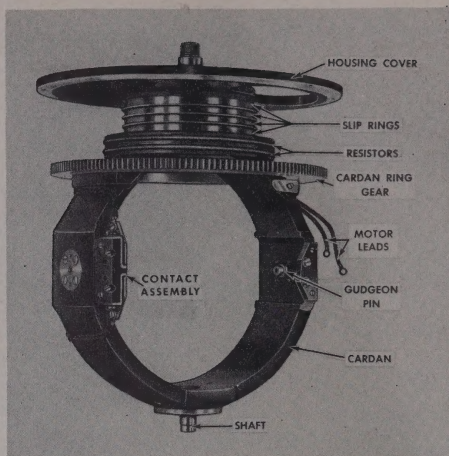
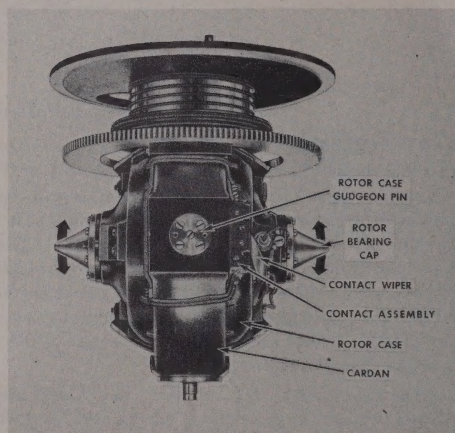

Fig. 42—Cardan Assembly
Fig. 43—Cardan Assembly with Rotor Case Mounted in Position
2. Fig. 42 shows the Cardan which supports the Rotor Case assembly described above. The Cardan is mounted vertically within the Stabilizer housing on ball bearings at both the upper and lower ends of the assembly, thus permitting the Cardan to rotate about an axis perpendicular to the floor of the airplane. As shown in Fig. 43, the gyro rotor case is mounted in the Cardan between horizontal gudgeon bearings. This arrangement permits the case and enclosed rotor to pivot about a horizontal axis which is at right angles to the gyro rotor axis.
3. Fastened rigidly to the upper part of the Cardan is an assembly consisting of two resistors, four copper slip rings, and a large ring gear. In addition, a bakelite block with four flat silver-faced copper segments is mounted on one side of the Cardan ring. This assembly, illustrated in Fig. 42, is called the contact assembly. The pick-up wiper mounted on the gyro case (illustrated in Fig. 44) is so placed that it will rest on the insulator between the two middle segments of the sector block when the gyro spindle is at right angles to the Cardan axis, parallel with the floor of the airplane. When the gyro tips on its gudgeon bearings, the contact wiper moves up or down to contact one of the four segments.